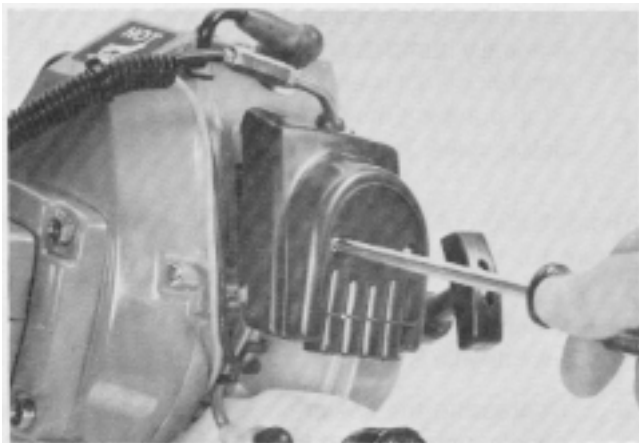

Figure 16
1. Remove the two screws with flat washers and lock washers, securing the air cleaner assembly and remove the assembly. See Figure 16.